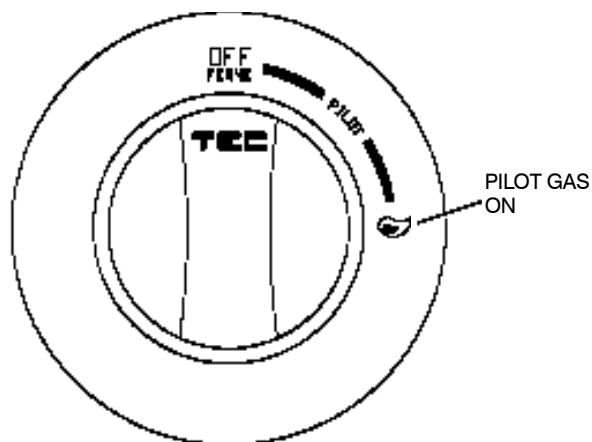

Figure 12. Pilot Output Knob
3. Depress and turn the Pilot Output Knob to  (ON). (See Figure 12.)